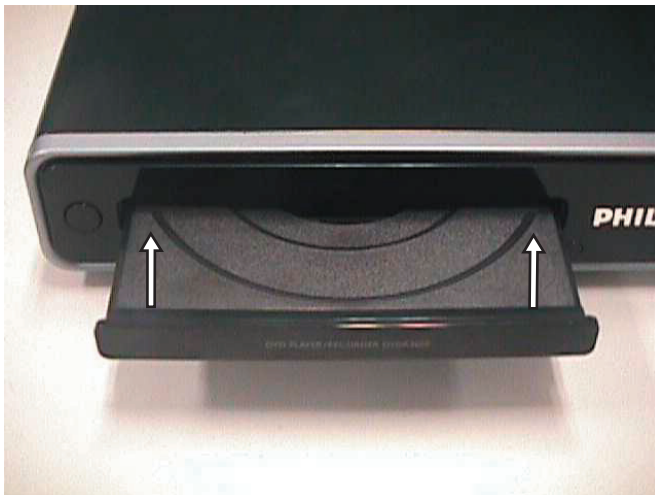

Figure 2: Remove Tray Cover
- 2) Remove the Tray Cover 110 as shown in Figure 2.